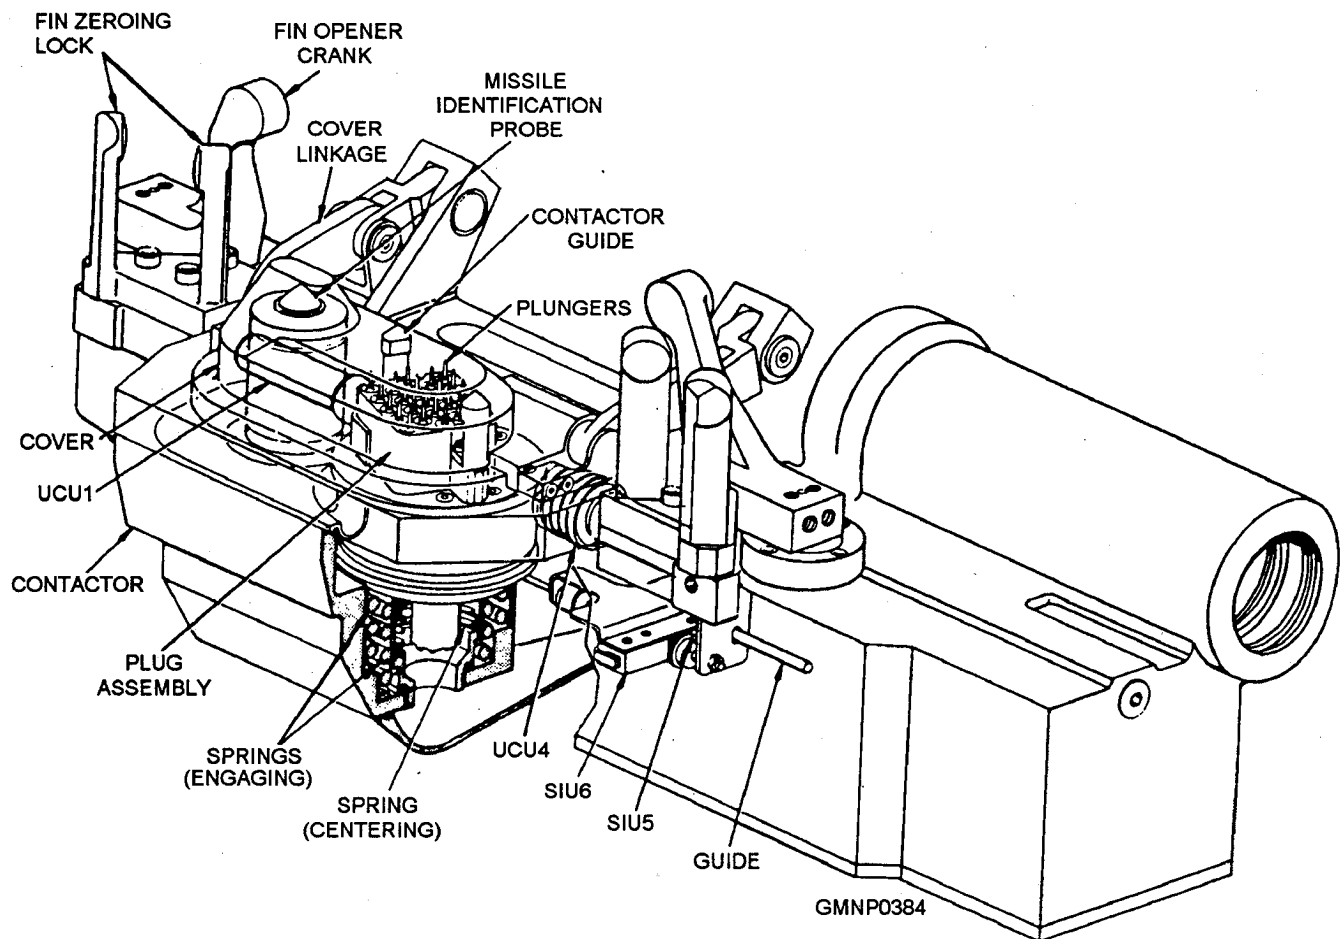

Figure 7-6.—Right-hand fin opener and contactor assembly.
**FIN OPENER AND CONTACTOR ASSEMBLY.**— Functionally, the identification probe (fig. 7-6) is used twice in system operation. During an initial strikedown on-load of a missile, the fin opener assembly is extended to the missile. The probe connects the missile-type information to the control system of the launcher. There it is stored in the identification memory circuits as missile-type and cell-location data. When this action is accomplished, the fin opener assembly is disengaged and the missile may be unloaded into a cell.